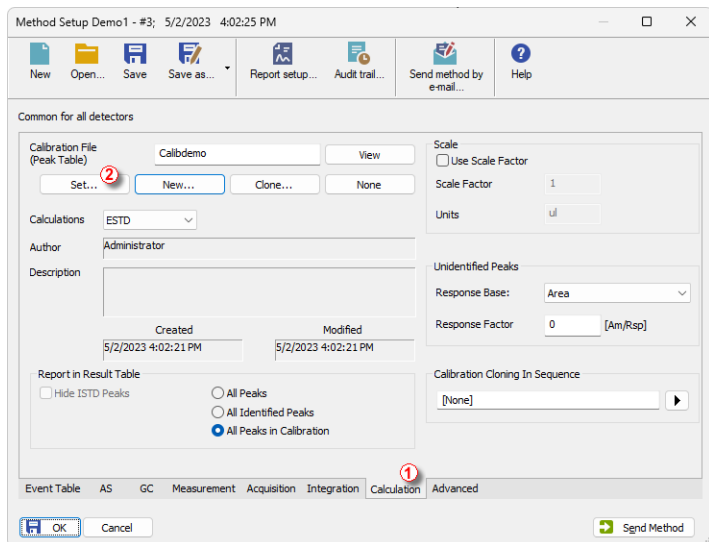

Fig. 18: Method Setup - the Calculation tab
- Return to the *Instrument* window and use the *Method - Calculation...* command to open the *Method Setup* dialog directly on the *Calculation* tab ① as shown on **Fig. 18** on pg. 31. Alternatively, you can use any command from the *Method* menu and then move to the *Calculation* tab. All of these sections (and some others) are part of the template method; thus they are present within the same dialog but on different tabs.
- Use the *Set...* button ② to select the calibration file and link it to the method.